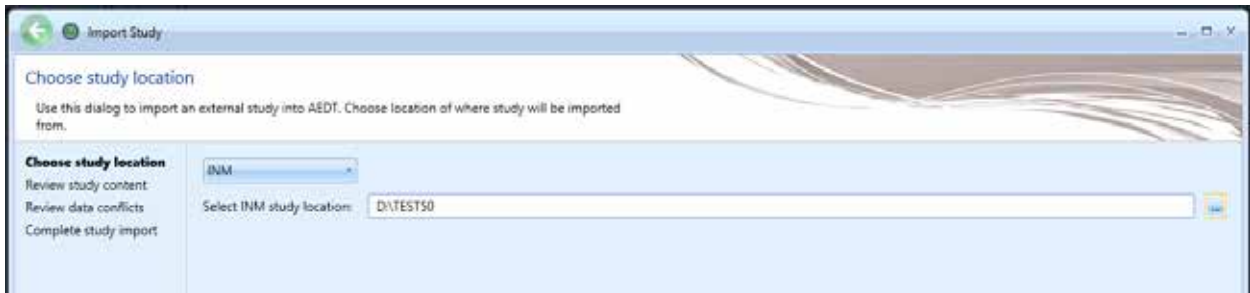

Figure 58. Choose study location
2. Click the *Study* tab and click *Import* to display the *Import Study* dialog (Figure 58).